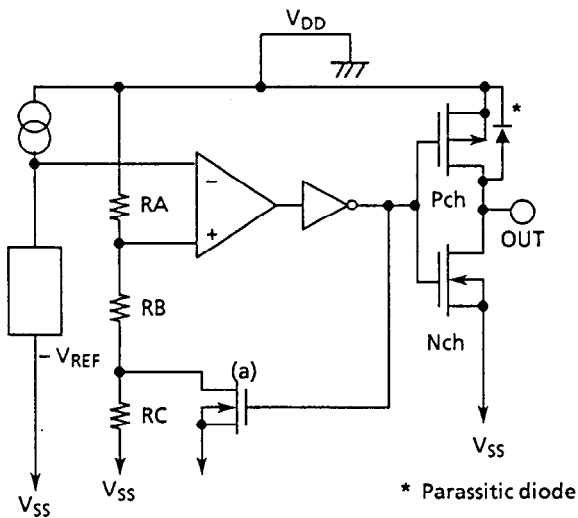
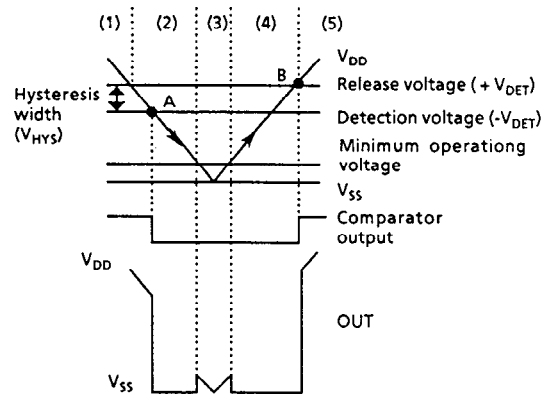

Figure 16
Figure 17
Hysteresis width is the voltage difference between a device's detection voltage and its release voltage (see Figure 17.  $V_{HYS} = B - A$ ). By giving a device hysteresis, erroneous toggling of the output due to noise at the input is avoided.
- (1) When power supply voltage  $V_{DD}$  is greater than the release voltage  $+V_{DET}$ , the Nch transistor is OFF and the Pch transistor ON, causing  $V_{DD}$  (high) to appear at the output. With the Nch transistor of Figure 16 (a) off, the comparator input voltage is  $(RB + RC)/(RA + RB + RC) \times V_{DD}$ .
- (2) When power supply voltage  $V_{DD}$  goes below  $+V_{DET}$ , the output continues to maintain the power supply voltage level, as long as  $V_{DD}$  remains above the detection voltage  $-V_{DET}$ . When  $V_{DD}$  does fall below  $-V_{DET}$  (A in Figure 17), the Nch transistor goes ON, the Pch transistor goes OFF, and  $V_{SS}$  appears at the output. With the Nch transistor of Figure 16 (a) ON, the comparator input voltage is  $RB/(RA + RB) \times V_{DD}$ .
- (3) When  $V_{DD}$  falls below the minimum operating voltage, the output becomes undefined. However, output will revert to  $V_{DD}$  if a pull-up has been employed.
- (4)  $V_{SS}$  will again be output when  $V_{DD}$  rises above the minimum operating voltage.  $V_{SS}$  will continue to be output even when  $V_{DD}$  surpasses  $-V_{DET}$ , as long as it does not exceed the release voltage  $+V_{DET}$ .
- (5) When  $V_{DD}$  rises above  $+V_{DET}$  (B in Figure 17), the Nch transistor goes OFF, the Pch transistor goes ON, and  $V_{DD}$  appears at the output.